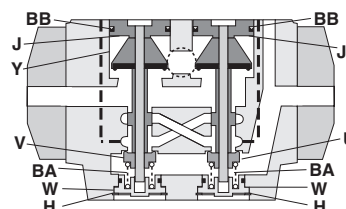

Figure 11 – Cross Section
**Disassembly Note.** Before removing the pilot assembly the solenoid leads must be slipped off the solenoid terminals. When removing the monitor, it may also be necessary to disconnect the wires brought in by the electrical conduit and the conduit itself. Also, extra care is required when removing the E-P monitor (or adaptor plate) because there are parts such as springs and O-rings which can separate from the valve body. Care is also required in withdrawing the solenoid leads from the passage through the valve body. To remove the valve elements, first remove the retaining rings H (Figure 11), end plugs W, and springs BA at the lower ends of the bores. Pull inlet poppets U and V off the valve stems, and remove the remaining parts of the valve elements through the top of the valve body.
A worn or damaged piston seal BB (Figure 11) can allow pilot pressure to leak by the piston and cause erratic valve action and intermittent lockouts. Disassemble to inspect seals. See *Repair Procedure E* for disassembly instructions.
Excess oil on the piston walls Y (Figure 11) can sometimes cause erratic valve action and result in intermittent lockouts. Although lubrication is not required for this valve, if a lubricator is used it should deposit only a thin film of oil on the piston walls. Remove excess oil and reassemble valve. Check lubricator flow rate (see page 4).